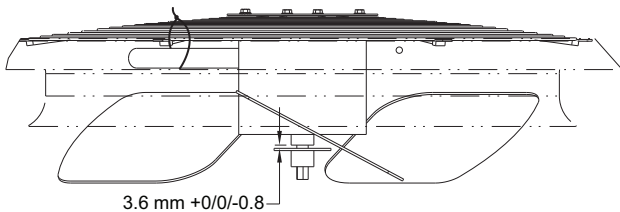

Fig. 35 — Outdoor Fan Blade Position
4. Adjust fan height as shown in Fig. 35.